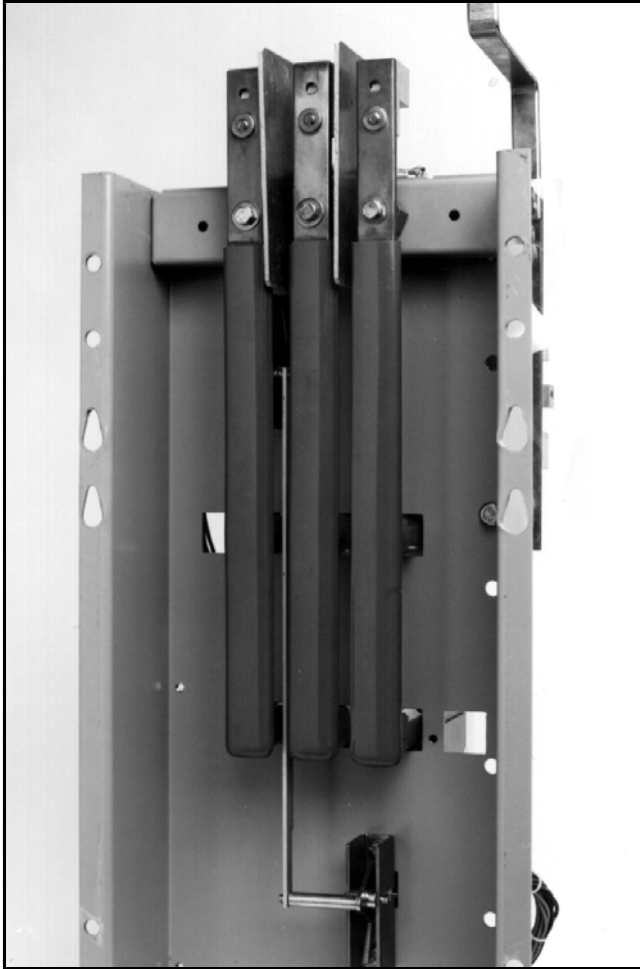

Figure 23. Mounted Load Lug Assembly (225-1200 A Models).
**Step 4:** Remove the operating mechanism from the front of the power panel by removing the six bolts holding the mechanism in position. The molded case switches or optional circuit breakers should not be removed (Figure 23).
THE REAR-MOUNTED LOAD LUGS, DIP-INSULATED BUS BARS, STANDOFF INSULATORS, GLASS POLYESTER PHASE BARRIERS, AND METAL MOUNTING BRACKET ARE DESIGNED TO BE REMOVED AS ONE LOAD LUG ASSEMBLY (FIGURE 23).